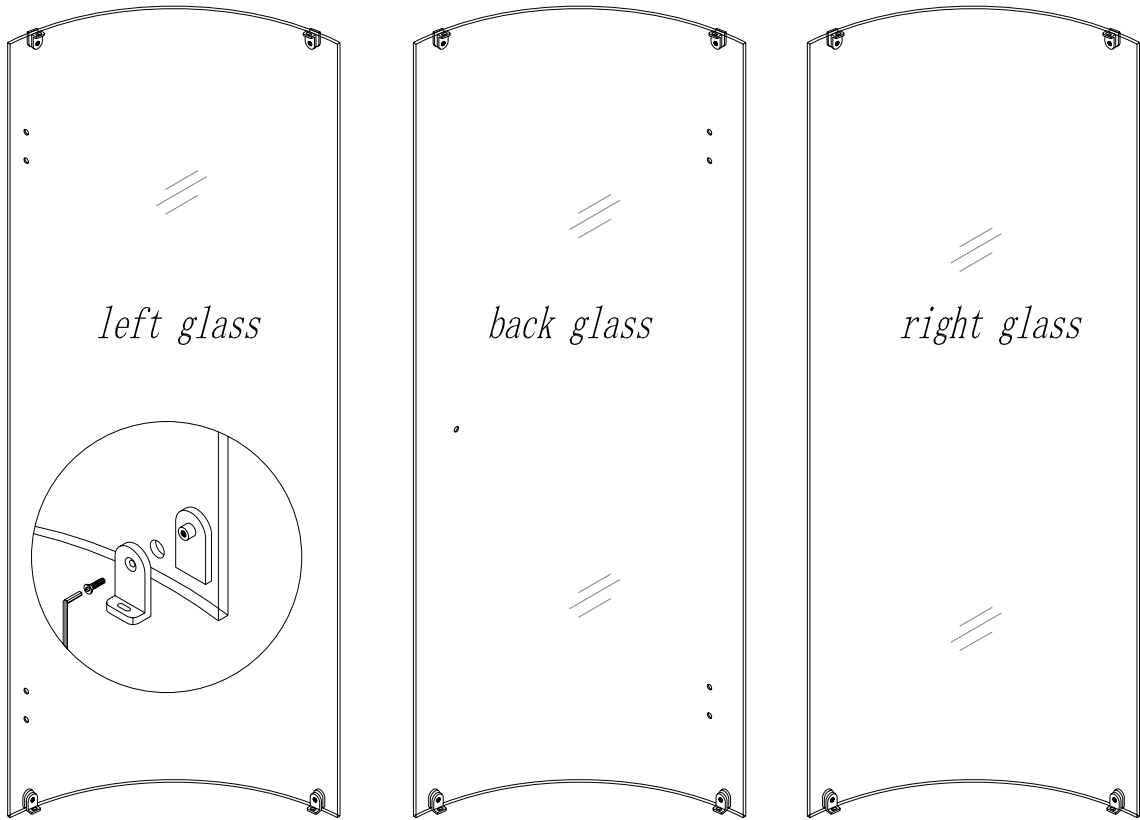

Fig 2
7. Take out the **three stationary glass panels (3)** then attach the **glass brackets (8)**. Please notice that the three stationary glass panels are different from each other, they should be placed in the right sequence (fig 2).